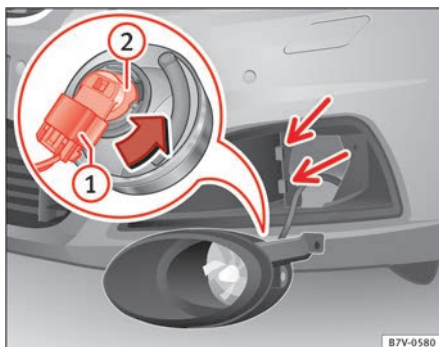

Fig. 208 Changing the bulbs in the headlights.
4. Tilt the headlight slightly forward and extract it from its lateral attachments ⇒ fig. 208 (small arrows).
5. Release the connector ⇒ fig. 208 ① and remove it.
6. Rotate the lamp holder ⇒ fig. 208 ② to the left all the way, in the direction of the arrow, and pull it out backwards with the bulb.
9. Insert the connector ⇒ fig. 208 ① on the lamp holder ⇒ fig. 208 ②. The connector must audibly click into place.
10. Place the headlight into its position ⇒ fig. 208 (small arrows) and tilt it backwards.